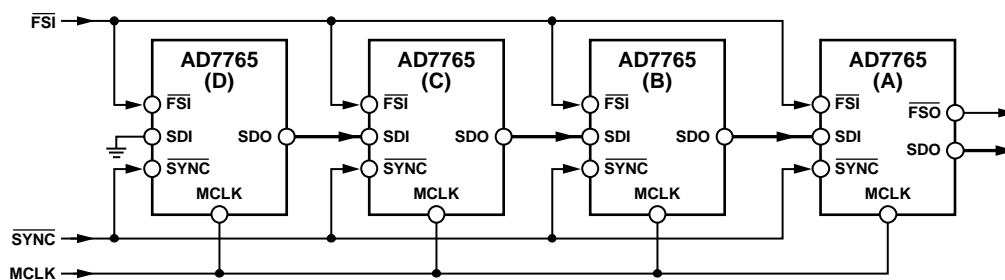

Figure 40. Daisy Chaining Four Devices in Decimate 128x Mode Using a 40 MHz MCLK Signal
The block diagram in Figure 40 shows how to connect devices to achieve daisy-chain functionality. Figure 40 shows four AD7765 devices daisy-chained together with a common MCLK signal applied. This configuration works in decimate 128× or decimate 256× mode only.
Referring to Figure 40, note that the SDO line of AD7765 (A) provides the output data from the chain of AD7765 converters. Also, note that for the last device in the chain, AD7765 (D), the SDI pin is connected to ground. All of the devices in the chain must use common MCLK and SYNC signals.
(for the Daisy-Chain Configuration Shown in Figure 40)